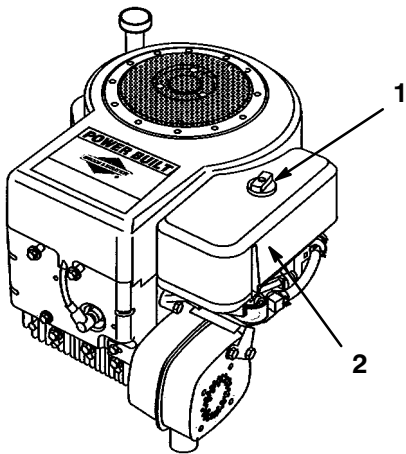

Figure 25
3. Clean around the air cleaner to prevent dirt from getting into the engine and causing damage. Unscrew the knob and remove the air cleaner cover (Fig. 25).
2. Install the air cleaner cover and knob (Fig. 25). Tighten the knob snugly.